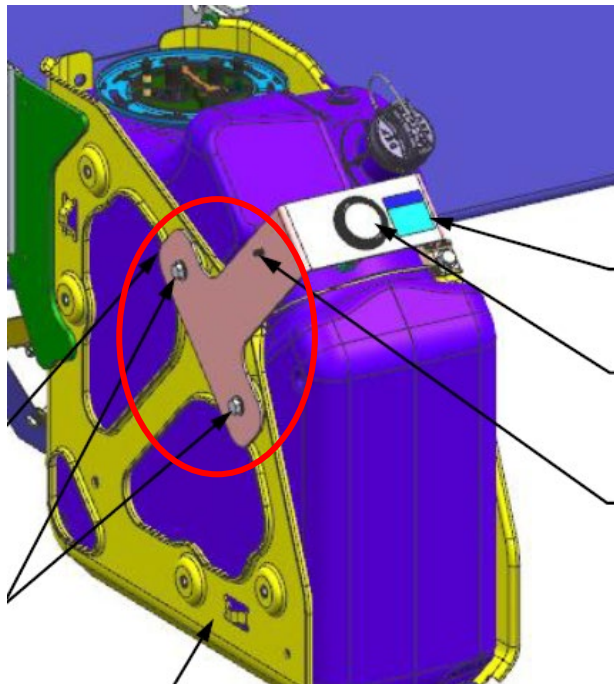

Fig. 5, Left-Side Bracket Installation
6. Install the bracket, part number 06-96387-000, on the left hand side of the DEF tank cage as shown in **Fig. 5** (from drawing D04-35450-000). Using the bolts removed earlier, attach the new bracket. Tighten the bolts 26 lbf•ft.
7. Install the sticker (part number 24-01759-000) onto the bracket to the right side of the gauge as shown in **Fig. 5**.